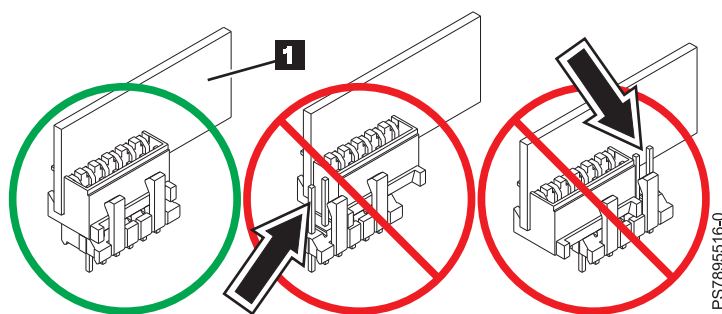

Figure 28. Installing the management card
To install the management card, which is shown by **1** in Figure 28, complete the following steps:
4. Insert the management card (as shown by **1** in Figure 28 on page 59) and verify that the card is securely on the connector and pushed down all the way to the main board.